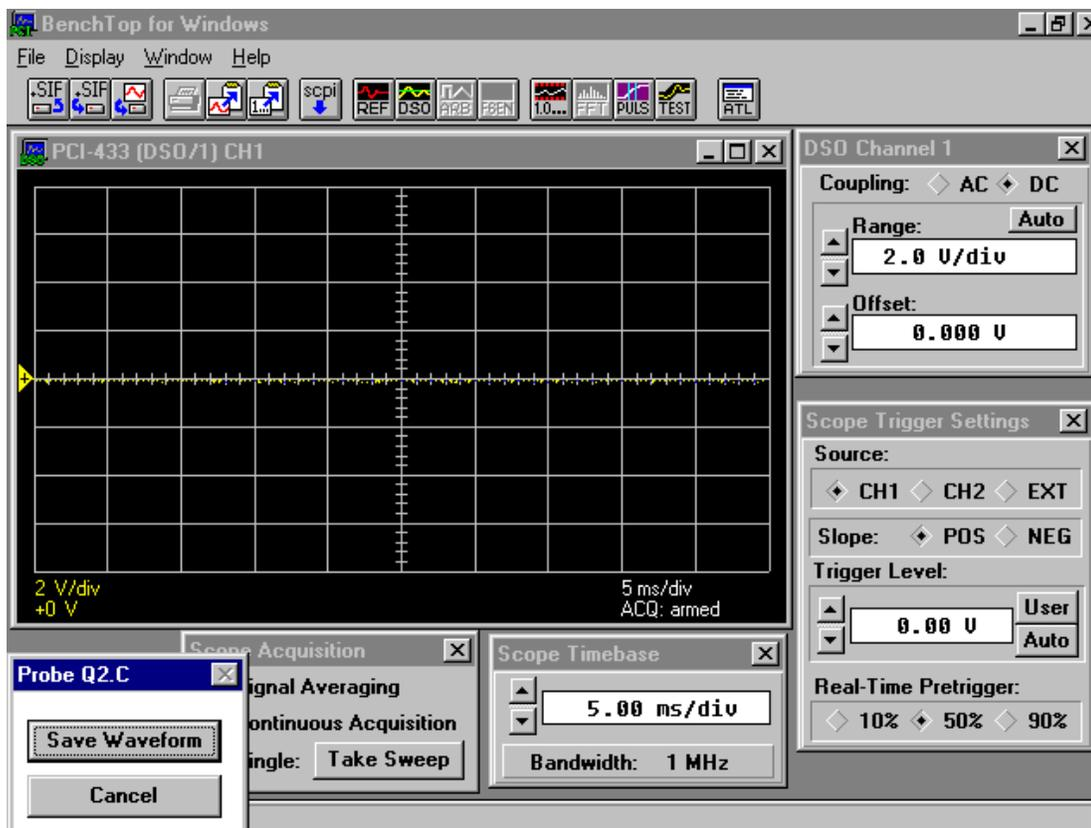

Figure 14. Example *BENCHTOP FOR WINDOWS* Waveform Learn Screen
Clicking on the LEARN WAVEFORM button on the Waveform Learn Layout Window will initiate the **C:\PC\B\TOP\BTOP.EXE** file which is part of the Commercial-Off-The-Shelf (COTS) software package (BENCHTOP) that controls and operates the OS-301(P)/PSM-93(V) Oscilloscope. The BENCHTOP™ FOR WINDOWS software package will come up with a standardized screen layout displaying the most widely used oscilloscope control functions, for changing or setting the scope settings for waveform capture. Overlaid on top of this BenchTop screen is an ACE package dialog box which allows the developer to click on either a SAVE WAVEFORM button or a CANCEL button. (See Figure 14 below).